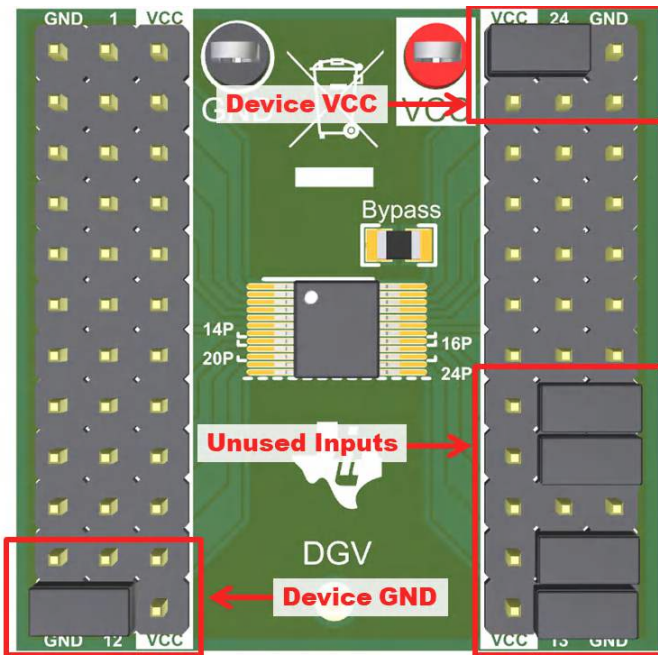

Figure 2-4. Shunt Usage for Device Evaluation
- Repeat step 5 for the GND pin and any unused input pins of the device. Figure 2-4 shows an example of how to use shunts to both power the device and tie unused inputs to a defined logic state to prevent them from floating. For more information on why it is important to avoid floating inputs, see the Implications of Slow or Floating CMOS Inputs application report.